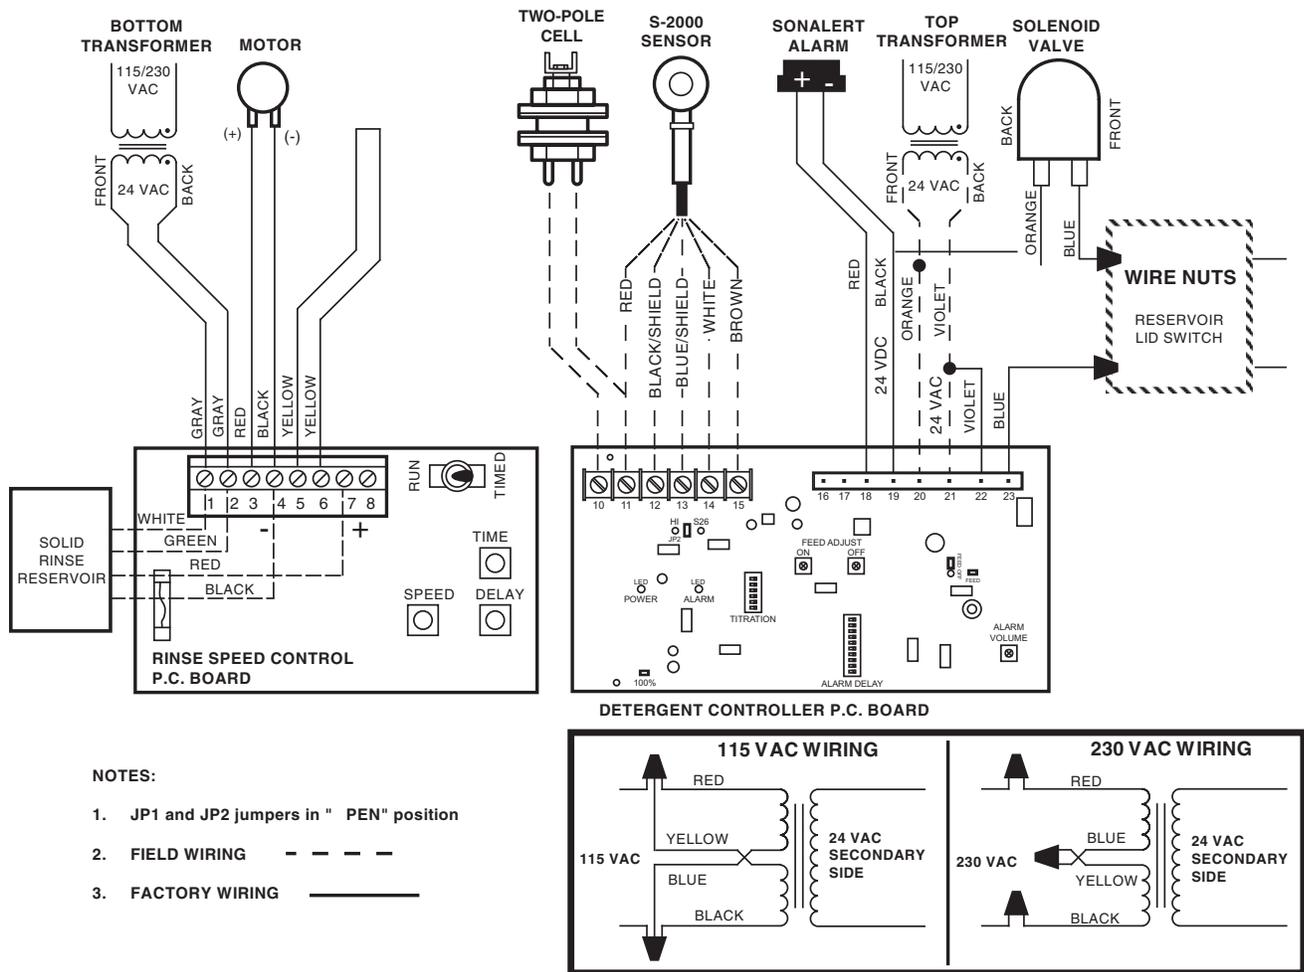

Figure 5-1
Both transformers in the GeoCenter should be connected to the single power source, refer to *Figure 5-1*.
A power source that is activated during the wash cycle of the machine should be connected to the **top** transformer. Make sure to wire the transformer for the proper voltage, refer to *Figure 5-1*.
1. Attach the BROWN wire to terminal #15, refer to Figure 5-1.
At the GeoCenter (Refer to Figure 5-1 on page 7):
At the GeoCenter Controller (Refer to Figure 5-1):
At the VANGUARD GeoCenter (Refer to Figure 5-1 on page 7):
1. At the Two Pole Probe, connect the cell wiring to the 2 screws terminals. Leave enough slack in the wire to allow removal of the cell from the connector without having to disconnect the wire (refer to Figure 5-1).